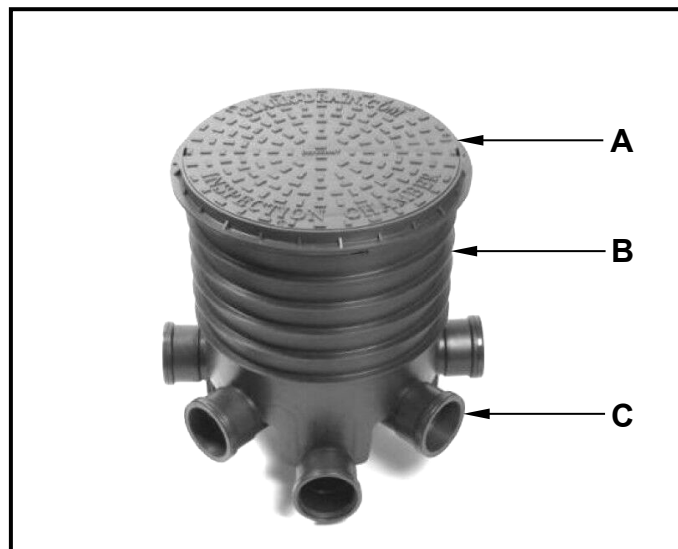

FIGURE 6.3
- 6.3 FIGURE 6.3 shows a drainage fixture that can be installed in a drainage system.